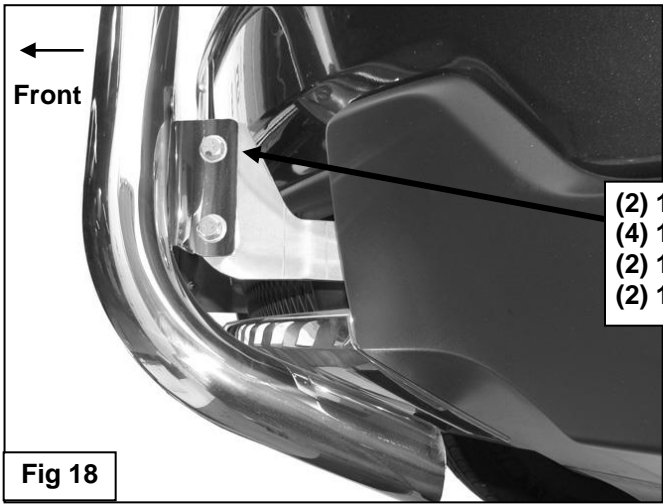

Fig 18
- 6. With assistance, hold the Bull Bar up to the outside of the Mounting Brackets. Attach the Bull Bar to the Mounting Brackets with the included (4) 10mm x 35mm Hex Bolts, (8) 10mm Flat Washers, (4) 10mm Lock Washers and (4) 10mm Hex Nuts, **(Figure 18).**